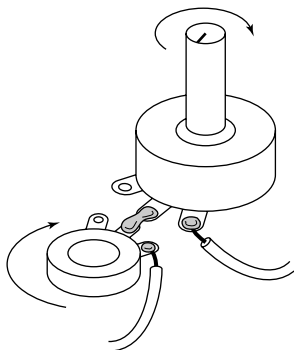

FIGURE 9-24: Turn trimmer dial away from an outside wired lug; turn main pot shaft toward an outside wired lug.
2. Turn the trimmer’s dial to full resistance (away from an outside soldered lug) and turn the large pot’s dial to no resistance (toward an outside soldered lug, see Figure 9-24).